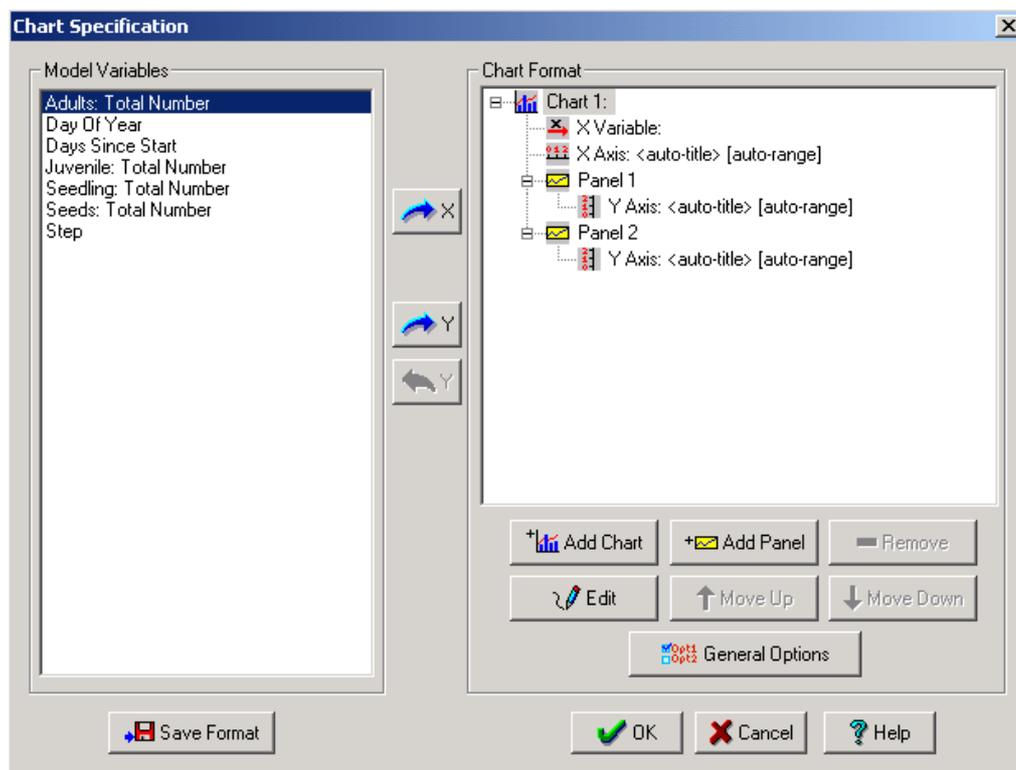

Figure 1.21 Chart Specification Panel
1. With the Run window active, select the Chart button  to open the 'Chart Specification' window (Figure 1.21)